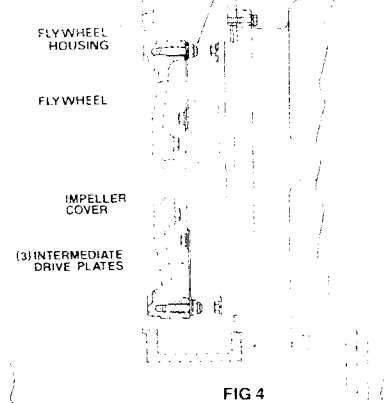

FIG 4
7. Install drive plate attaching screw and washer. Snug screw but **do not tighten**. Some engine flywheel housings have a hole located on the flywheel housing circumference in line with the drive plate screw access hole. A screwdriver or pry bar used to hold the drive plate against the flywheel will facilitate installation of the drive plate screws. Rotate the engine flywheel and install the remaining seven (7) flywheel to drive plate attaching screws. Snug screws but do not tighten. After all eight (8) screws are installed torque each one 26 to 29 lbf·ft torque [35 - 39 N·m]. This will require tightening each screw and rotating the engine flywheel until the full amount of eight (8) screws have been tightened to specified torque.
*Does not apply to units having 3 intermediate drive plates. See Fig. 4.